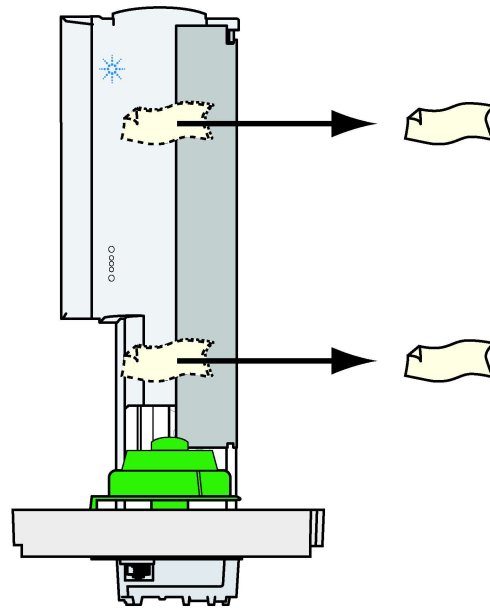

Figure 5 Remove the shipping tape
- 1 Remove the shipping tape (Figure 5) and open the ALS door.